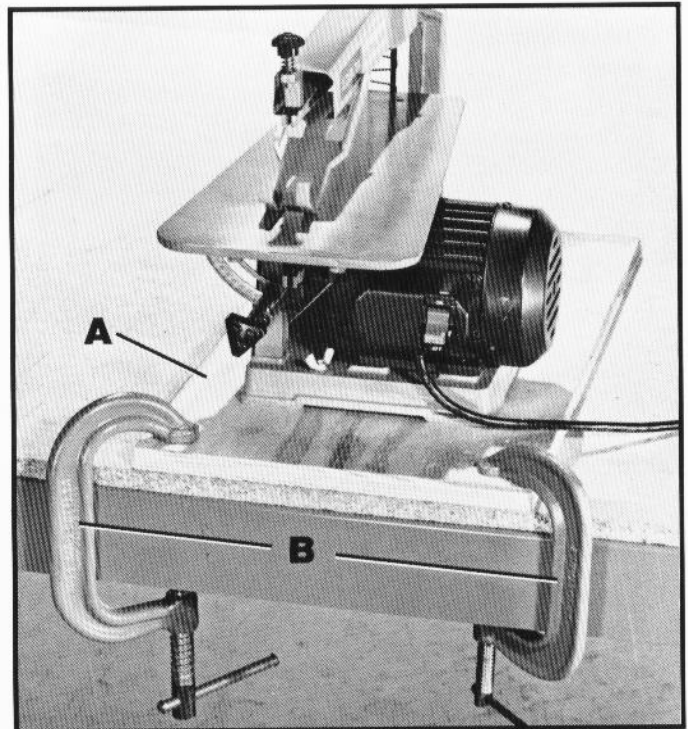

Fig. 3
An alternate method of securing the scroll saw to a supporting surface is to fasten the scroll saw base to a mounting board (A) Fig. 3, and "C" clamp the mounting board to the supporting surface, as shown, using two or more "C" clamps (B). The mounting board should be of sufficient size to allow clamping, as shown, and the holes in the mounting board must be countersunk at the bottom so screw heads are flush with bottom surface of the mounting board.